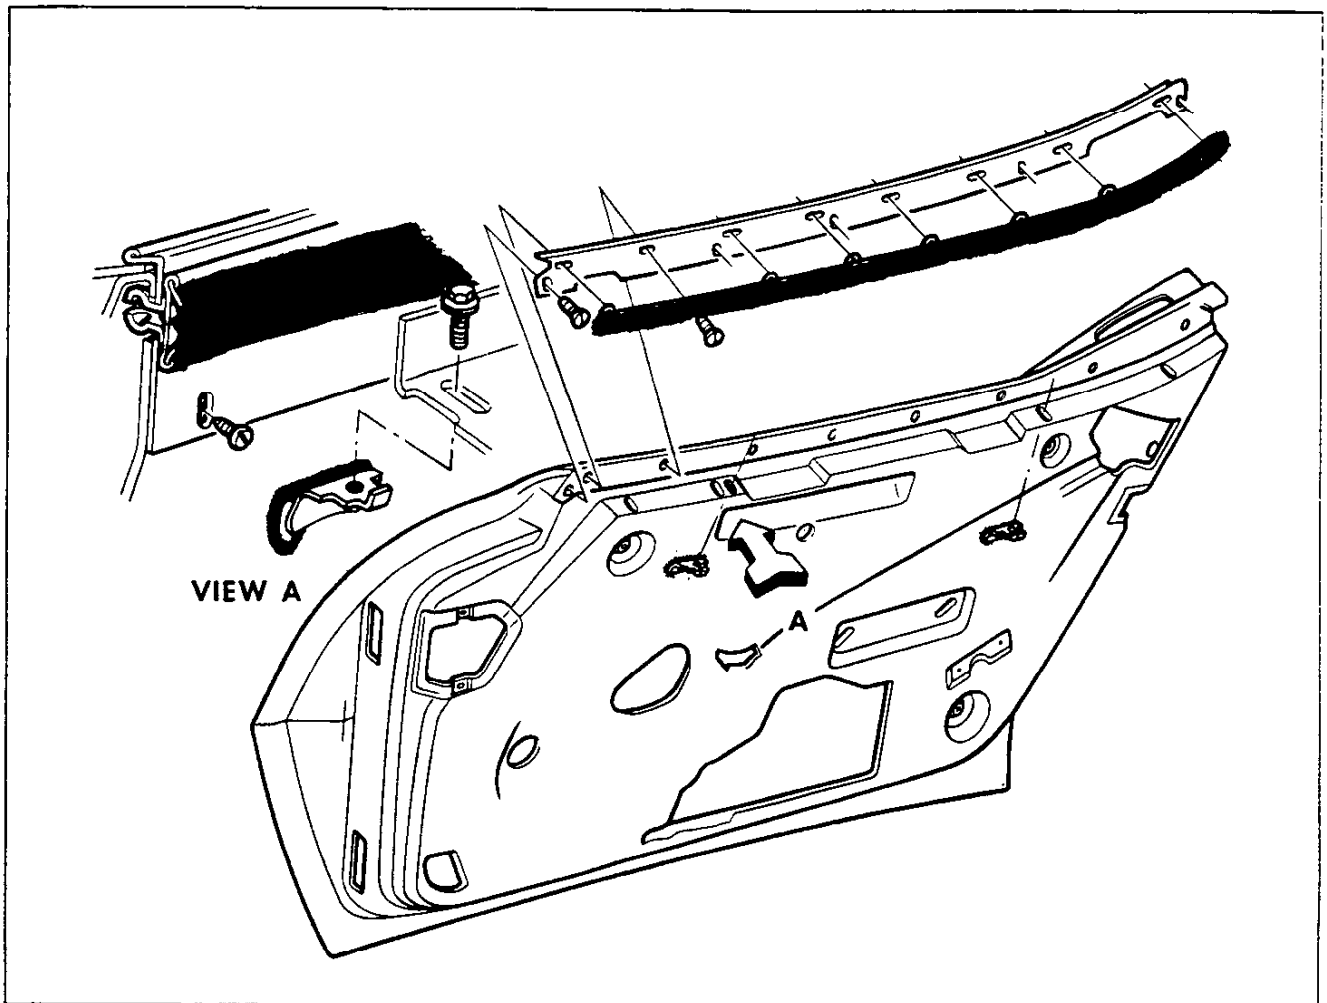

Fig. 27-Window Glass Seals and Molding
**WINDOW OUTER SEAL ASSEMBLY (Fig. 27)**
### WINDOW ANTI-RATTLE (Fig. 27)